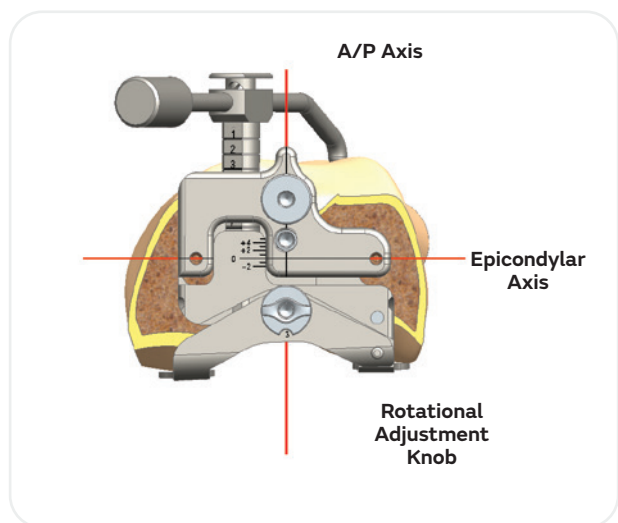

Figure 12
4. Adjust the external rotation of the sizing guide to be aligned anatomically with the epicondylar and/or A/P axis. This can be achieved by turning the rotational adjustment knob (0-6°) using a hex screwdriver (**Figure 12**).